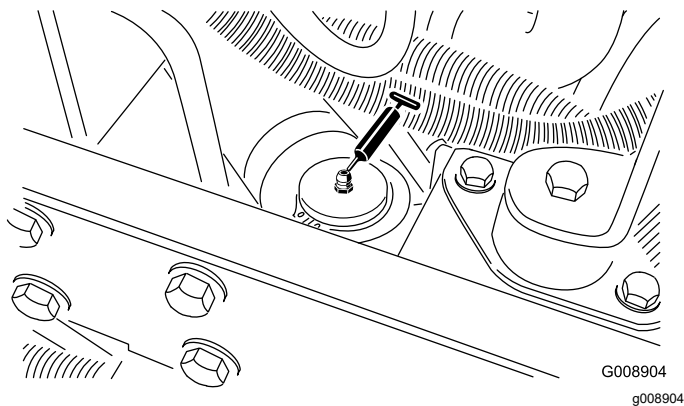

Figure 55
- Steering cylinder (Figure 55).